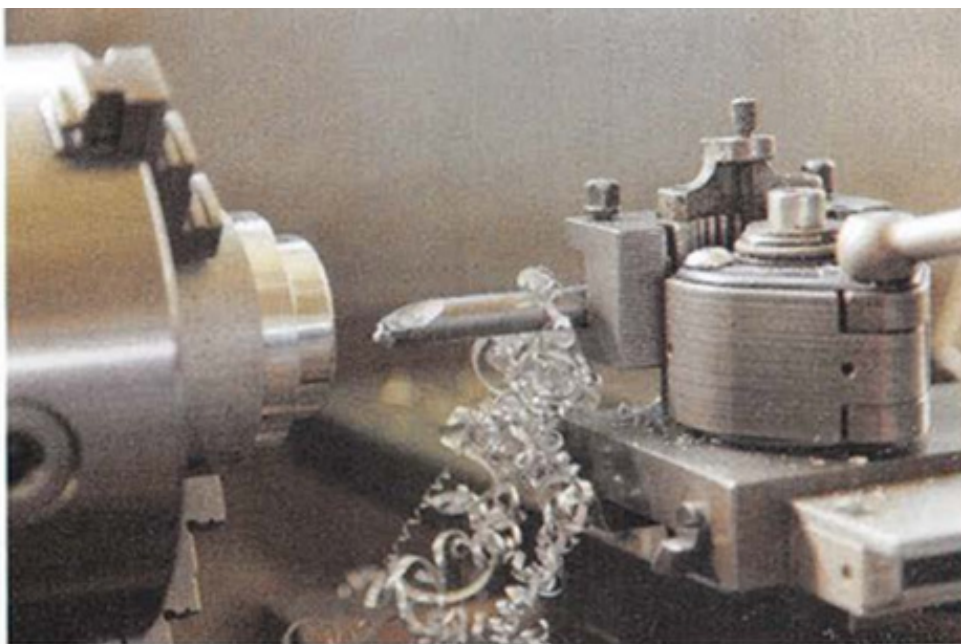

Figure 6.19: To avoid injury, always remove stringy chips with pliers. Never use your hands.
17. To stay safe, always use pliers to pick up long, stringy pieces of metal. Do not touch them with your hands, as they can easily cut your skin (**Figure 6.19**).